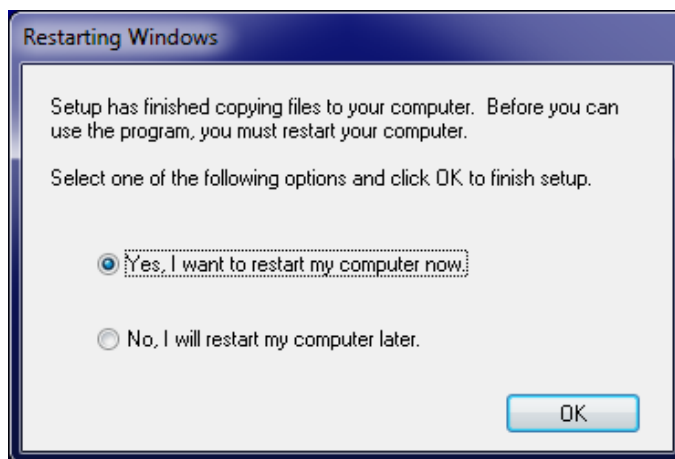

Figure 6-16: Audio Driver Installation Complete
Step 8: When the driver installation is complete, the screen in **Figure 6-16** appears.